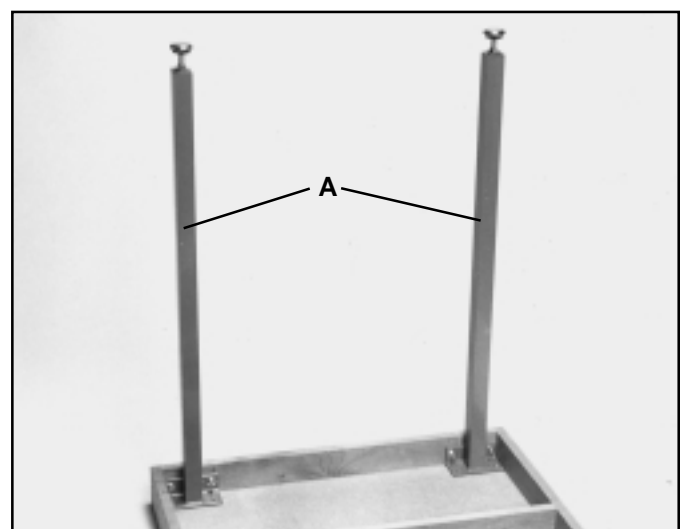

Fig. 19
4. Figure 19 illustrates the two legs (A) assembled to the bottom of the table.